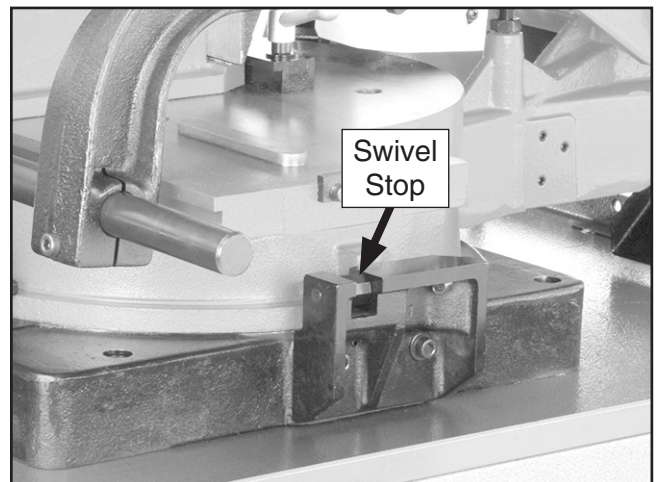

Figure 49. Swivel stop engaged.
- Flip swivel stop in to engage (see **Figure 49**).